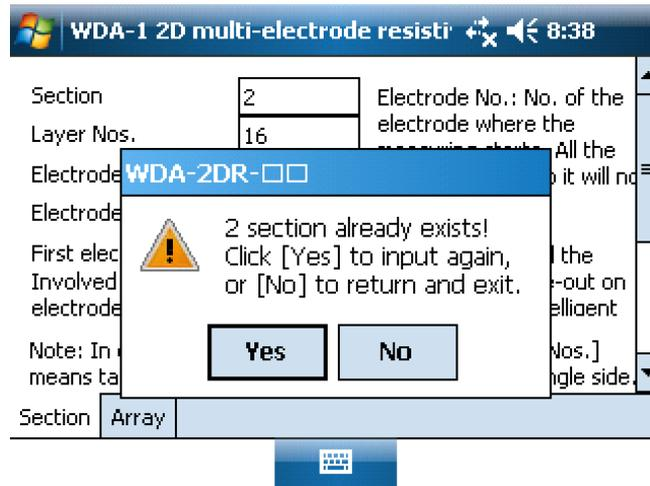

Fig. 6-9
**Section names are not allowed to be the same. Once a new section is created, the parameters can not be modified. If modification is necessary, input a new section name to create another “Section” (Fig. 6-9).**